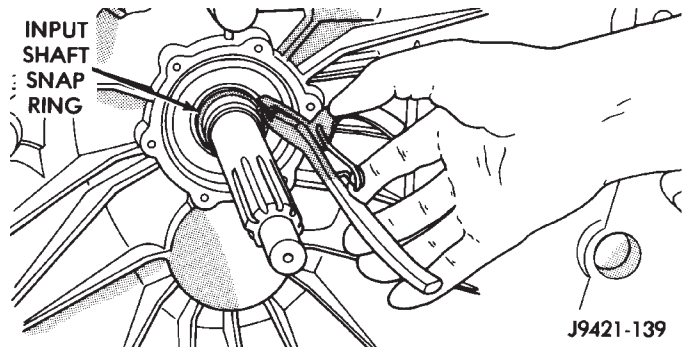

Fig. 129 Installing Input Shaft Snap Ring
(17) Install input shaft snap ring (Fig. 129).